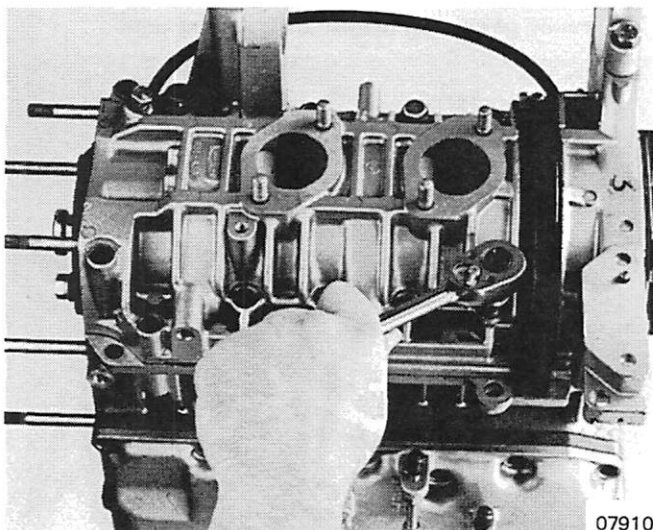

Figure 1. Removing Crankcase Cover
1. Remove crankcase cover screws and end cap screws and remove crankcase cover. (Figure 1)